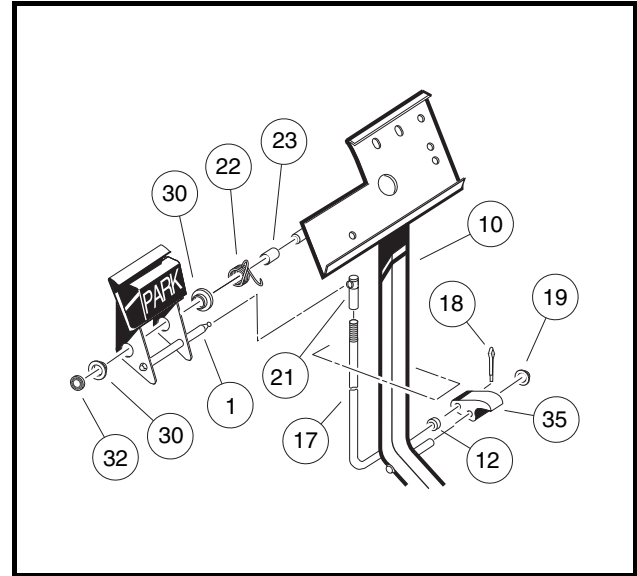

Figure 5-4 Park Brake Assembly
**NOTE:** *New push nuts (19) and (32) must be used when reassembling the park brake (Figure 5-4, Page 5-4).*
- 3.2. To remove the park brake pedal (1), remove the push retainer nut (32), disconnect the torsion spring (22) (**Figure 5-4, Page 5-4**) and slide the pedal off of the shaft. **See preceding NOTE.**
1. From the bottom side of the floorboard, insert the park brake rod (17) through the brake pedal assembly opening as shown (**Figure 5-4, Page 5-4**). Then install the park brake pawl (35) onto the shaft on the brake pedal assembly (10) and also insert the park brake rod (17) into the park brake pawl.
2. Install the push nut (19) on to the park brake pawl shaft.
3. Install the spacer (23) and torsion spring (22) on the park brake pedal shaft on the brake pedal assembly.
4. Install the two bushings (30) in the park brake pedal and position the park brake pedal on the shaft on the brake pedal assembly weldment (10) (**Figure 5-4, Page 5-4**). Then attach the ends of the torsion spring to the park brake pedal and to the brake pedal weldment as shown (**Figure 5-5, Page 5-6**).
5. Install the push nut (32) on the park brake pedal shaft (**Figure 5-4, Page 5-4**).
6. Connect park brake rod (17) with ball joint (21) to the ball stud on the park brake pedal assembly (**Figure 5-4, Page 5-4**).